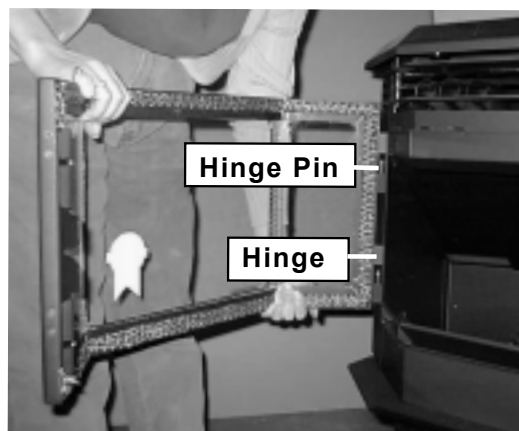

Figure 21.1
2. Line up hinges with hinge pins on appliance body, and slide door down until it sits securely on pins. **Figure 21.1.**